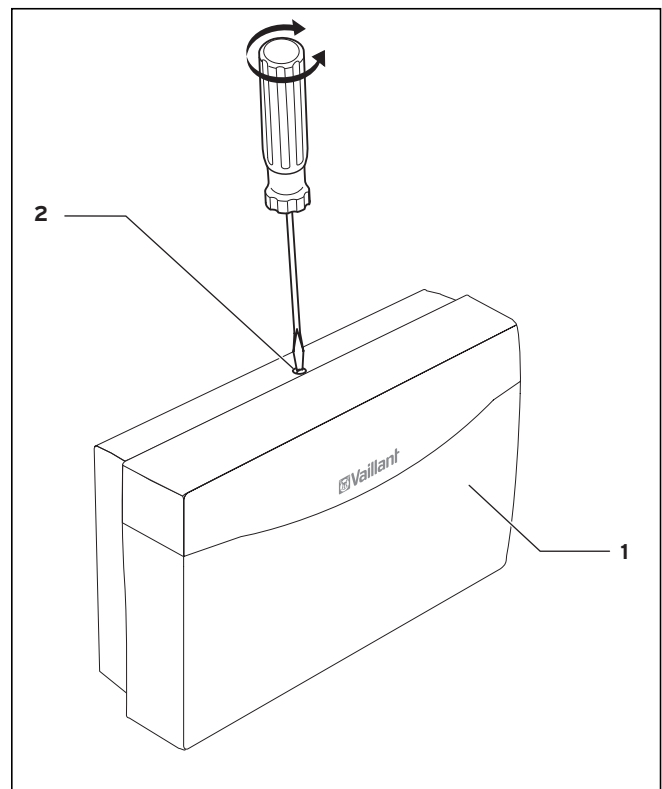

Fig. 5.1 Opening the casing
- ⇒ Mark the two fixing points in a suitable location to match the fixing holes (2).
- ⇒ Screw on the casing cover as shown in Fig. 5.1.